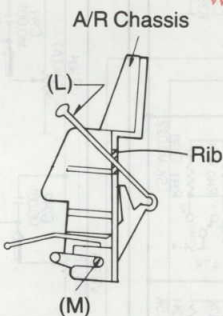

Fig. 8
1. First install parts (L) and (M) of the direction lever on the A/R (Auto/Reverse) chassis as shown in Fig. 8. Then fit part (L) between the ribs of the A/R chassis.